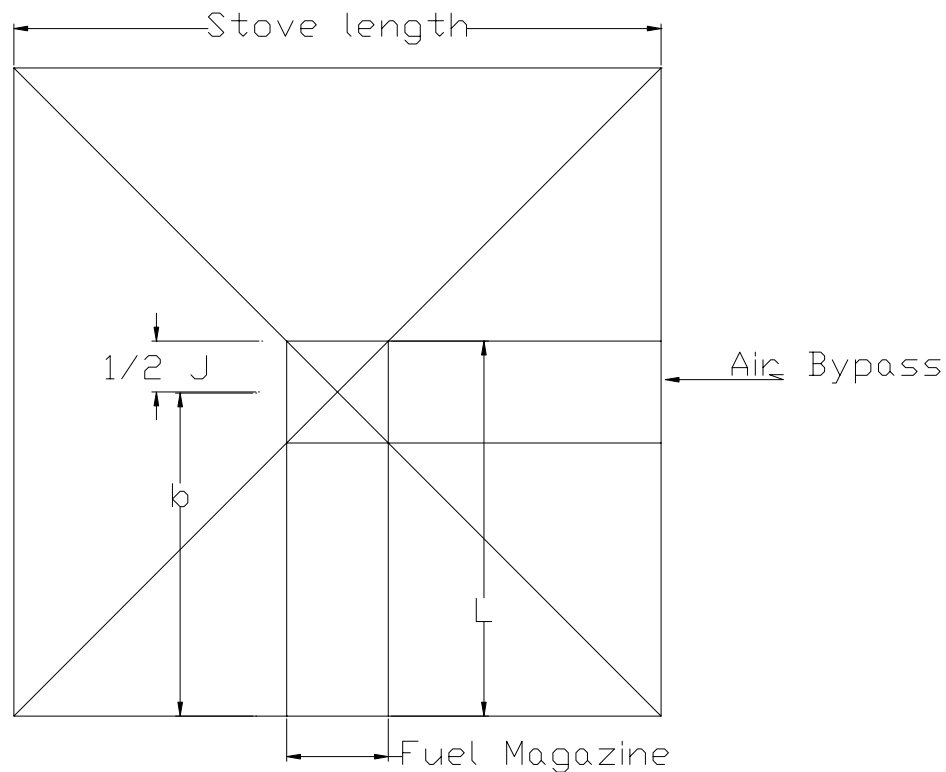

Figure 4: Locating the combustion Chamber
- Draw the diagonal lines across the outline and mark where they cross each other as shown in figure 4.